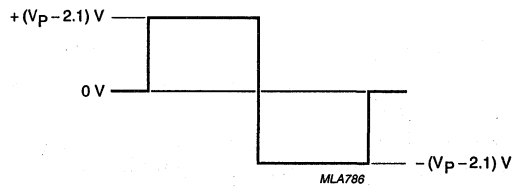

Fig.4 Maximum output voltage swing across R_L .
1. The output voltage swing is typically limited to $2 \times (V_P - 2.1)\text{ V}$ (see Fig.4).